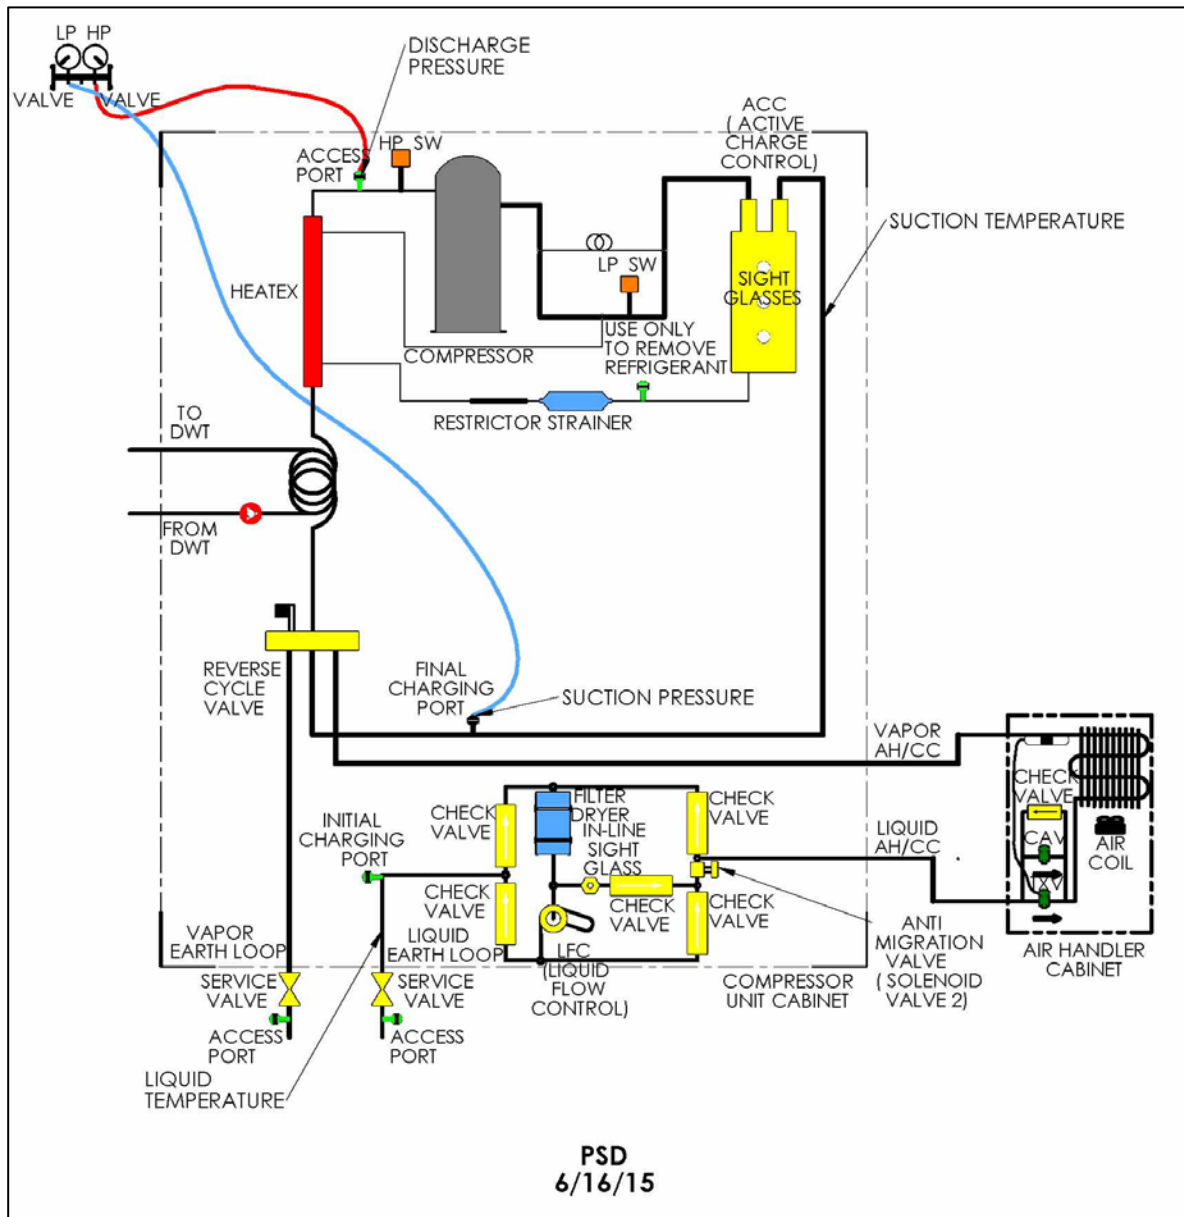

Figure 31. Pressure and Temperature Measurements
1. Start the system in **cool mode** by turning the thermostat set point temperature low enough to activate second stage cooling. Wait for 5 to 7 minutes for the built-in time delay to operate the compressor at full (stage 2) cooling capacity. Monitor the suction pressure on the LP gage as shown in Figure 31. The following steps indicate when the CAV (Cooling Assist valve) closes. **Do not adjust the CAV!**
2. After suction pressure stabilizes, monitor the increasing compressor discharge pressure at the HP gage as shown in Figure 31.
4. CAV closure is to be verified by checking the temperature of the earth loop liquid line just inside the compressor unit, as shown in Figure 31 **if this liquid temperature is 100°F or above, the CAV is closed.**
11. After adjusting for subcooling, reconnect the high side hose to the discharge access port as shown in Figure 31 and monitor discharge pressure. If refrigerant was recovered to adjust subcooling, the discharge pressure could have dropped to less than 320 psig, reopening the CAV. If so, allow the system to run for a period of time until the discharge pressure is 320 psig or higher, and the suction pressure is 120 psig or higher. Check the liquid line temperature again to ensure that is 100°F or higher. When these conditions are achieved, the superheat is to be checked.
13. After the system has run for 20 minutes, attach a temperature clamp or probe securely on the inlet line to the ACC in the location shown in Figure 31. Insulate from the surrounding air. Read this as the suction temperature.
14. Read the suction pressure at the final charging port, on the LP gage, as shown in Figure 31.